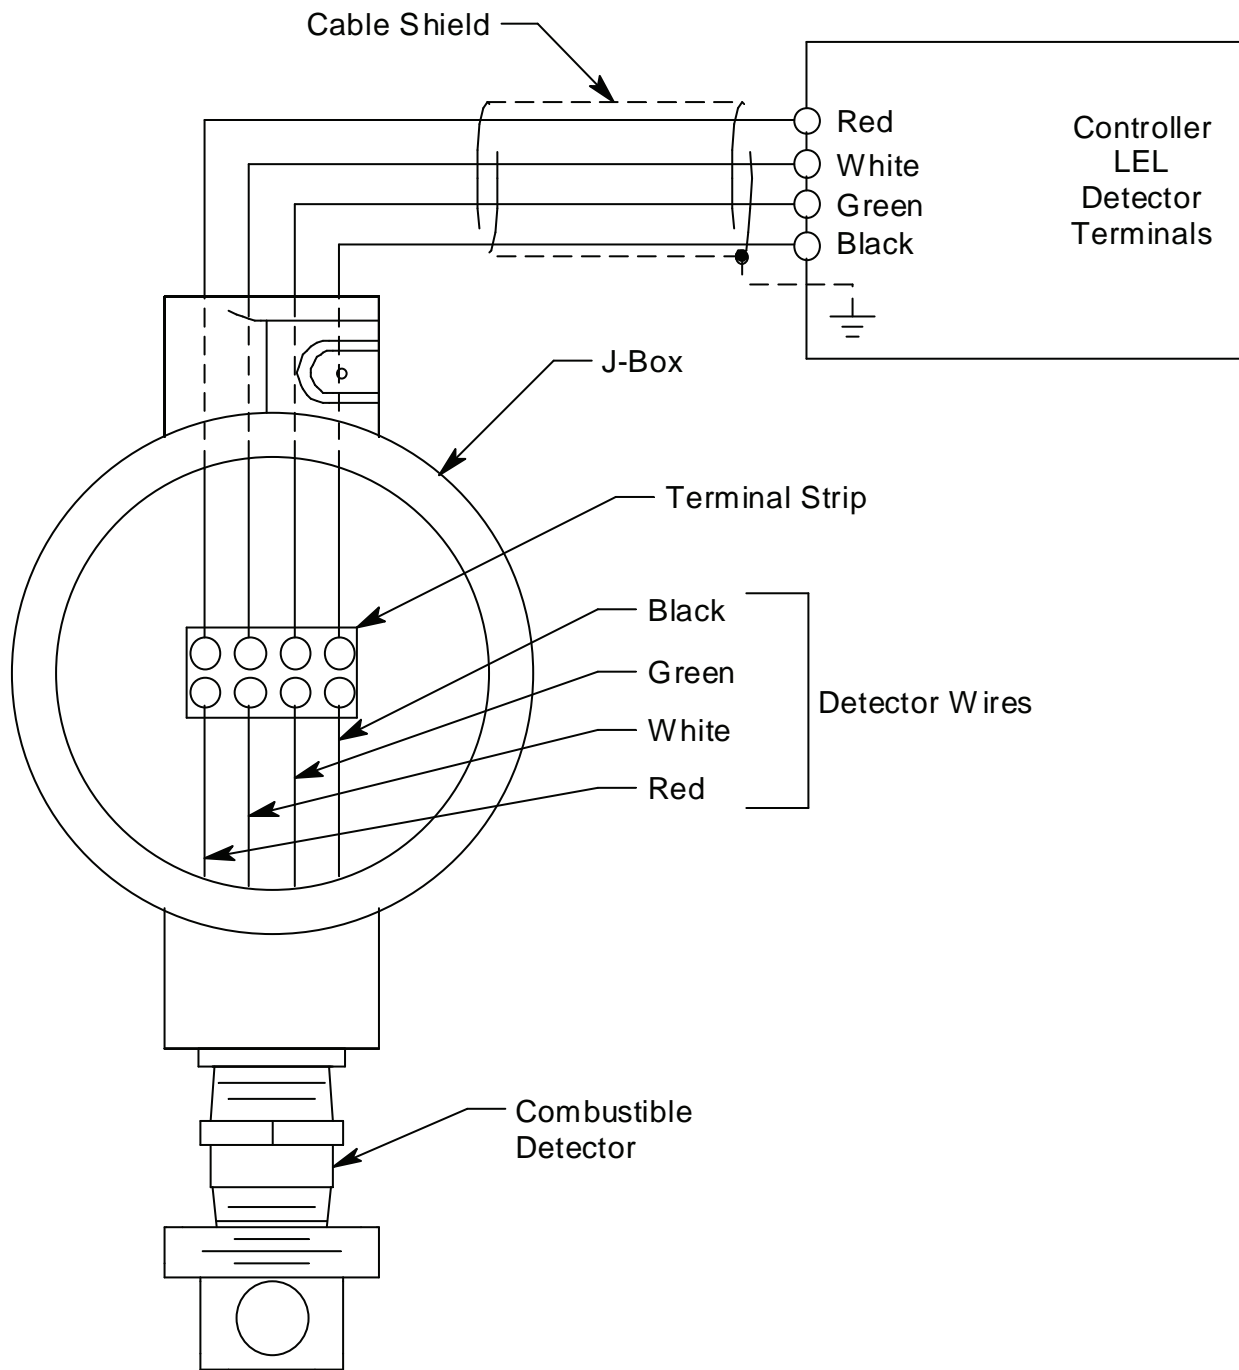

Figure 3: Wiring the Combustible Gas Detector to a Controller
If the detector is mounted directly to a controller, it is normally factory wired. Confirm that the detector's wires are connected to the appropriate controller detector terminals and skip to "Start Up" on page 10. See Figure 3, the controller operator's manual, and the controller's detector head specification sheet for the 61-0140RK-05 detector for the wiring connections.
7. If the detector is installed directly on a controller, connect the detector leads to the appropriate detector terminal strip terminals. See Figure 3 for wiring to a generic controller. See the controller operator's manual and the controller's detector head specification sheet for the 61-0140RK-05 detector for wiring specific to your controller.
If the detector is installed remotely from a controller in a junction box, connect the detector leads to the terminal block the same way the old detector was wired (see Figure 3). See the controller operator's manual and the controller's detector head specification sheet for the 61-1000RK-05 detector to verify the connections to the controller are correct.